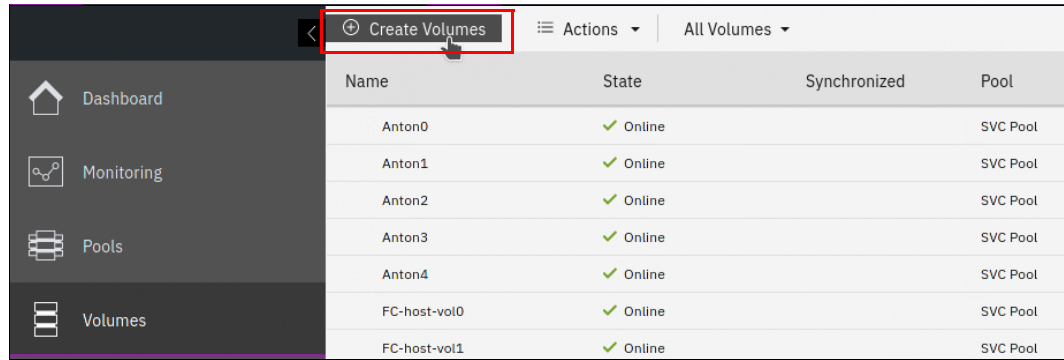

Figure 6-27 Create Volumes button
2. Click **Create Volumes**, as shown in Figure 6-27 on page 335.